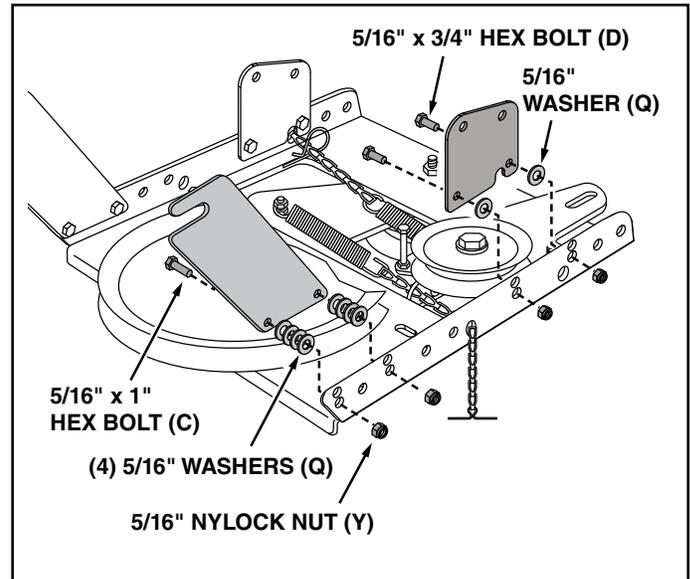

FIGURE 43
STEP 43: (SEE FIGURE 43)
- Attach the two rear pulley frame brackets (10) to the inside of the clutch/idler assembly using two 5/16" x 1" hex bolts (C), eight 5/16" washers (Q) and two 5/16" nylock nuts (Y) for each bracket.
- Attach the two front pulley frame brackets (12) to the inside of the clutch/idler assembly using two 5/16" x 3/4" hex bolts (D), 5/16" washers (Q), and 5/16" nylock nuts (Y) for each bracket.